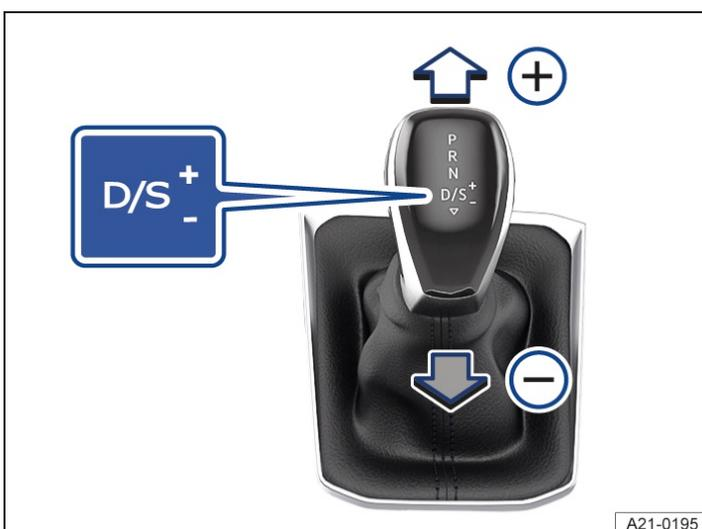

Fig. 1 Selector lever in Tiptronic position.
2. Tap the selector lever forwards **+** or back **-** to shift gear up or down → *Fig. 1*.